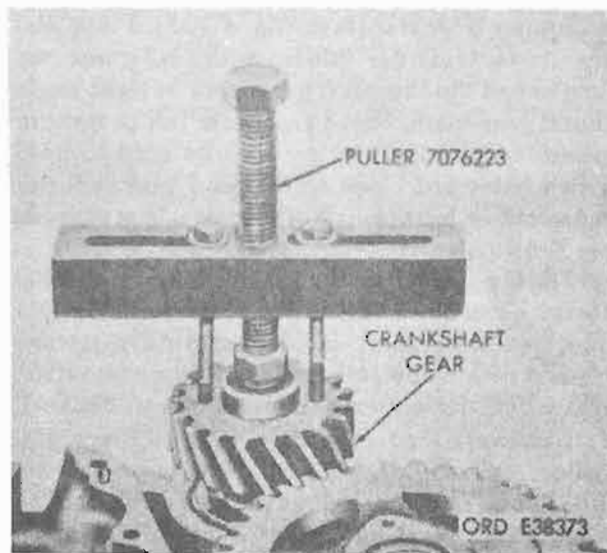

Figure 4-106. Crankshaft timing gear removal.
g. *Crankshaft Timing Gear*. Install gear puller 7076223 and remove crankshaft timing gear from crankshaft (fig. 4-106).